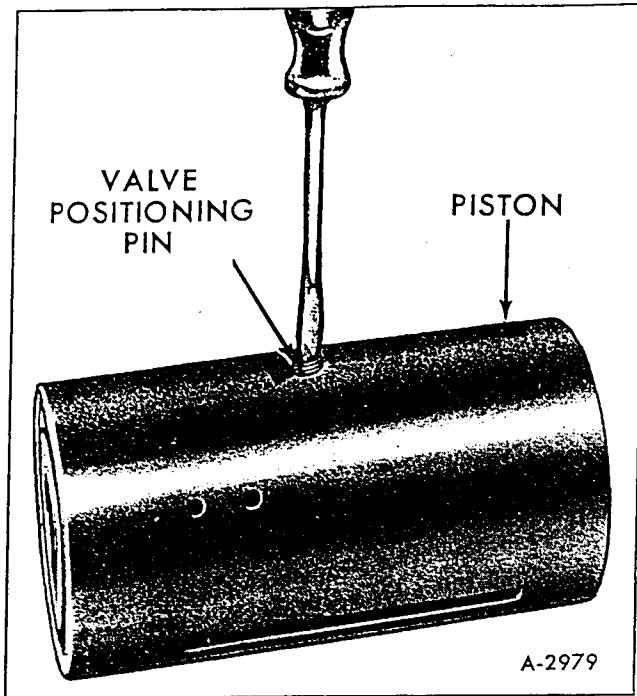

Figure 26 - Removing Valve Positioning Pin
5. Use a screwdriver to remove valve positioning pin from piston (fig. 26).
11. Install valve positioning pin in piston. Turn pin inward with a screwdriver until it is below outside surface of the piston. The flats must enter into the piston 1/4-inch to engage mating slot in the valve (fig. 26).